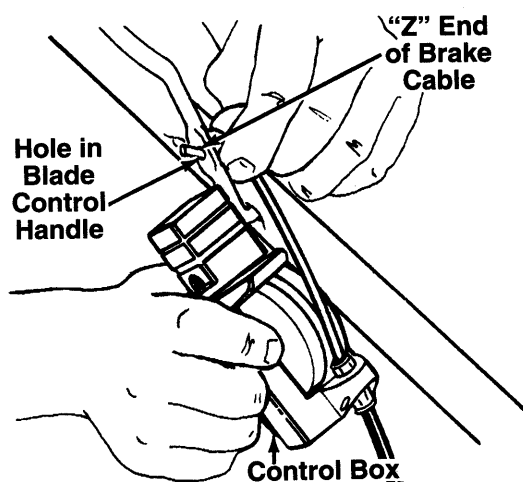

FIGURE 3.
4. Holding the control box near the left side of the upper handle (control box must be inside the handle), hook the "Z" end of the brake cable into the control handle from the outside to the inside. See figures 3 and 4.